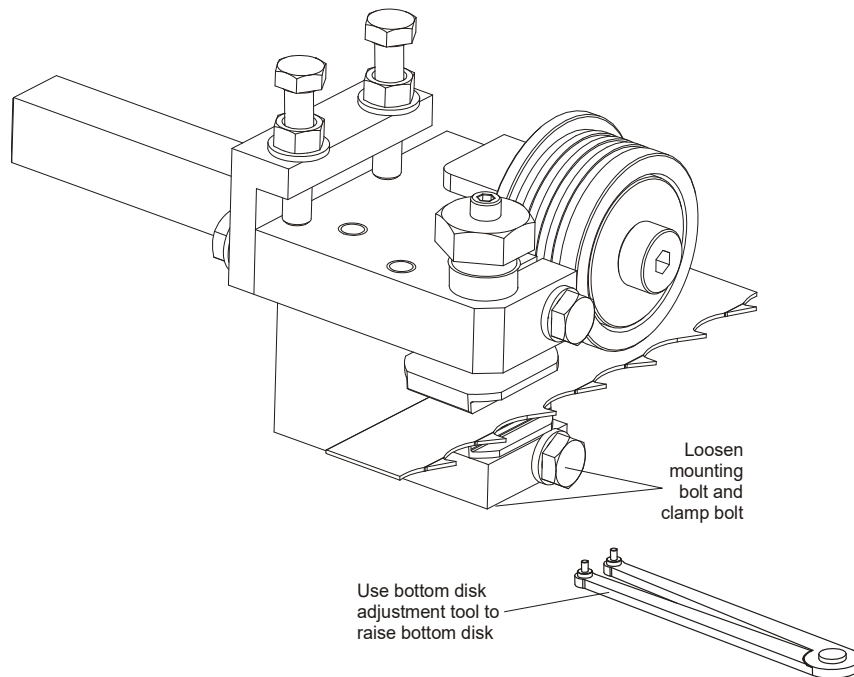

FIG. 3-1
**See Figure 3-1.** To adjust the lower block up, loosen the lower block mounting bolt and clamp bolt. Use the provided adjustment tool to raise the lower block. Retighten the lower block mounting bolt and clamp bolt. See Section Blade Disk Adjustment